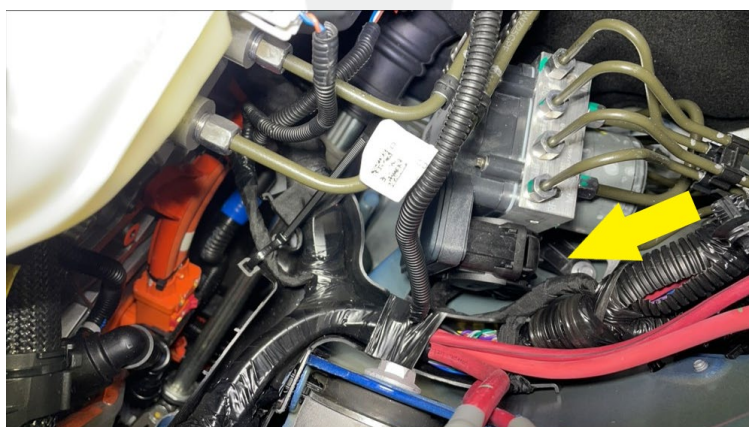

Figure 30
21. Connect the HCU connector to the HCU module, lower the lever, and then slide the red locking tab (Figure 30).